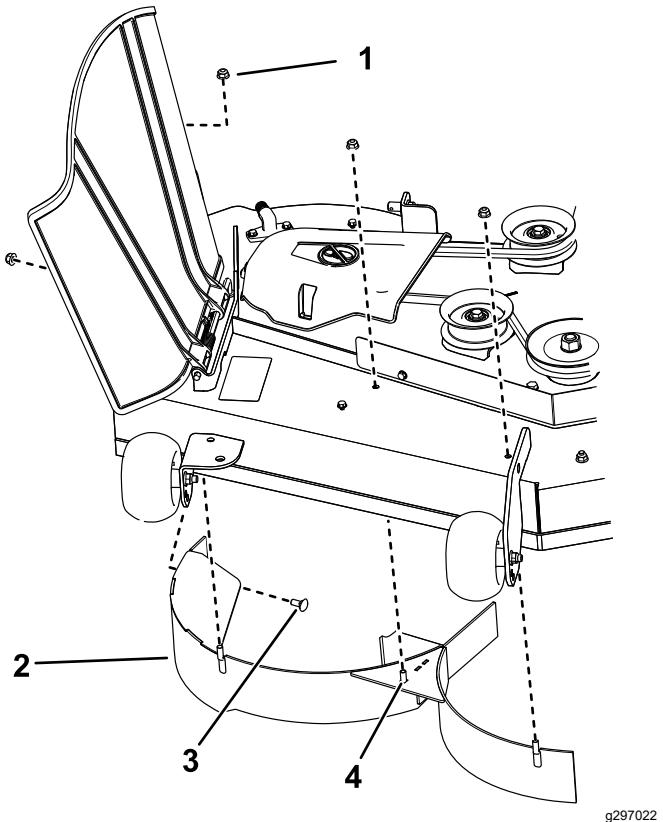

Figure 13
- Remove the 3 locknuts (5/16 inch) from the welded posts of the right baffle (Figure 13).
- Remove the 2 carriage bolts and 2 locknuts securing the right baffle to the deck and remove the baffle (Figure 13).
- Locate the 3 bolts in loose parts and use the existing locknuts and install these fasteners into the holes used for the welded posts (Figure 13) to prevent flying debris.